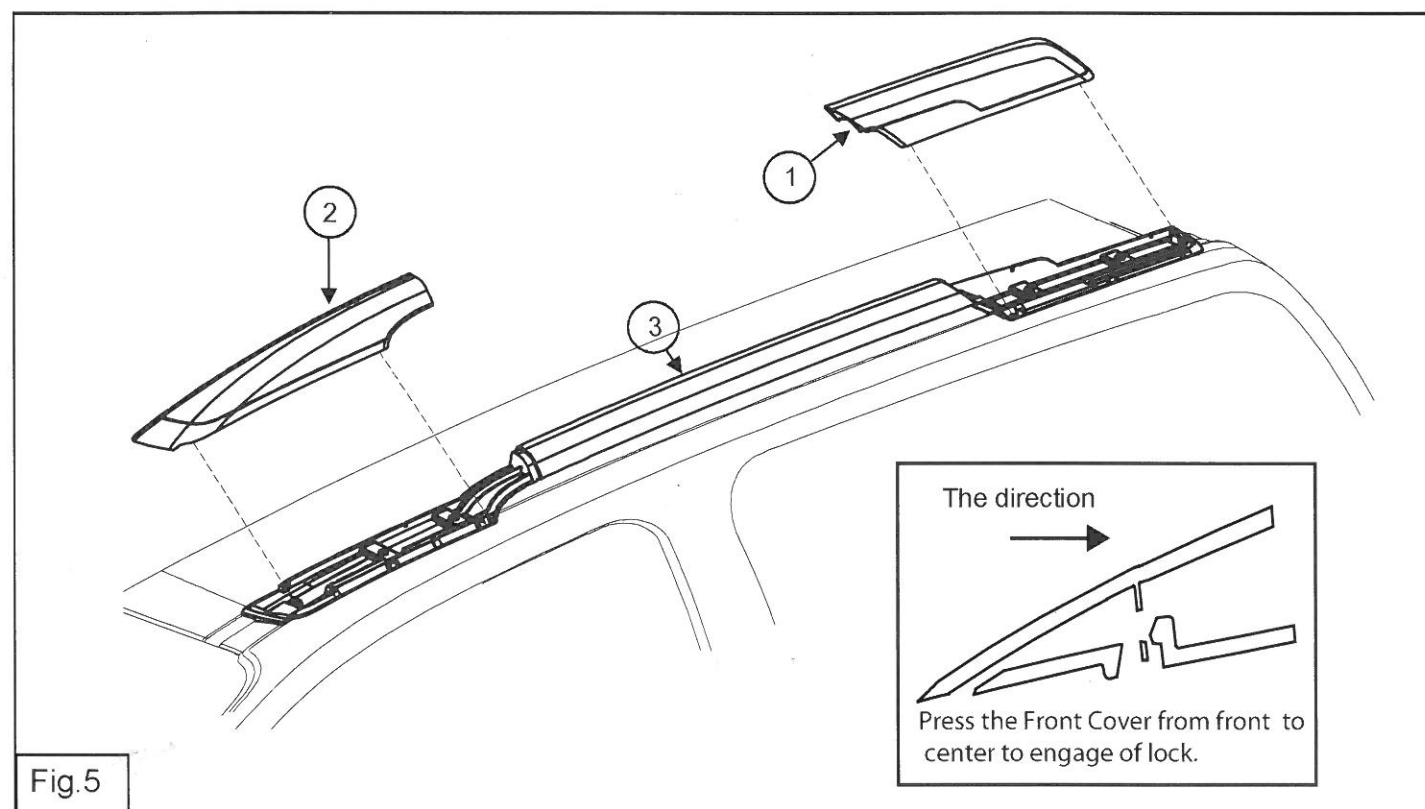

Fig.5
7. Install (1) Rear Cover and (2) Front Cover to the (3) Roof rail assy. As the Covers have a lock mechanism inside, press the Front Cover from front to center and the Rear Cover from rear to center so that the lock will engage. Refer to the right bottom corner of Fig 5. Make sure the engagement of lock.